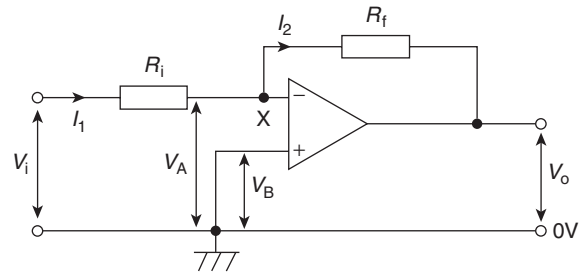
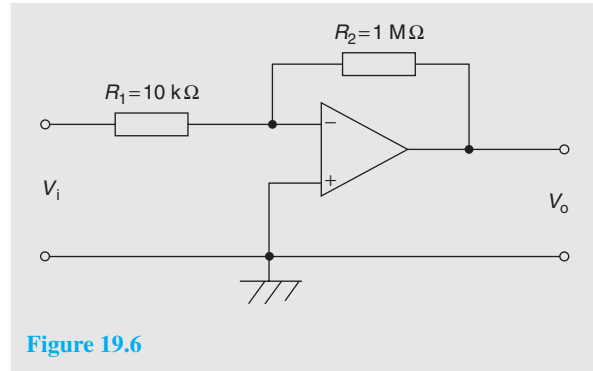

Figure 19.5
Figure 19.6
Operational amplifiers nearly always use **negative feedback**, obtained by feeding back some, or all, of the output to the inverting ( $-$ ) input (as shown in Fig. 19.5 in the next section). The feedback produces an output voltage that opposes the one from which it is taken. This reduces the new output of the amplifier and the resulting closed-loop gain  $A$  is then less than the open-loop gain  $A_o$ . However, as a result, a wider range of voltages can be applied to the input for amplification. As long as  $A_o \gg A$ , negative feedback gives:
The basic circuit for an inverting amplifier is shown in Fig. 19.5 where the input voltage  $V_i$  (a.c. or d.c.) to be amplified is applied via resistor  $R_i$  to the inverting ( $-$ ) terminal; the output voltage  $V_o$  is therefore in anti-phase with the input. The non-inverting ( $+$ ) terminal is held at 0V. Negative feedback is provided by the feedback resistor,  $R_f$ , feeding back a certain fraction of the output voltage to the inverting terminal.
- (ii) the inputs are both at the same potential if the op amp is not saturated, i.e.  $V_A = V_B$  in Fig. 19.5
In Fig. 19.5,  $V_B = 0$ , hence  $V_A = 0$  and point X is called a **virtual earth**. Thus,
**Problem 4.** In the inverting amplifier of Fig. 19.5,  $R_i = 1 \text{ k}\Omega$  and  $R_f = 2 \text{ k}\Omega$ . Determine the output voltage when the input voltage is: (a) +0.4 V (b) –1.2 V.
**Problem 5.** The op amp shown in Fig. 19.6 has an input bias current of 100 nA at 20 °C. Calculate (a) the voltage gain, and (b) the output offset voltage due to the input bias current. (c) How can the effect of input bias current be minimised?
Comparing Fig. 19.6 with Fig. 19.5, gives  $R_i = 10 \text{ k}\Omega$  and  $R_f = 1 \text{ M}\Omega$
(c) The effect of input bias current can be minimised by ensuring that both inputs ‘see’ the same driving resistance. This means that **a resistance of value of 9.9 kΩ (from part (b)) should be placed between the non-inverting (+) terminal and earth in Fig. 19.6**
With reference to Fig. 19.5, and from equation (5),
4. In the inverting amplifier of Fig. 19.5 (on page 292),  $R_i = 1.5 \text{ k}\Omega$  and  $R_f = 2.5 \text{ k}\Omega$ . Determine the output voltage when the input voltage is: (a) +0.6 V (b) -0.9 V [(a) -1.0 V (b) +1.5 V]